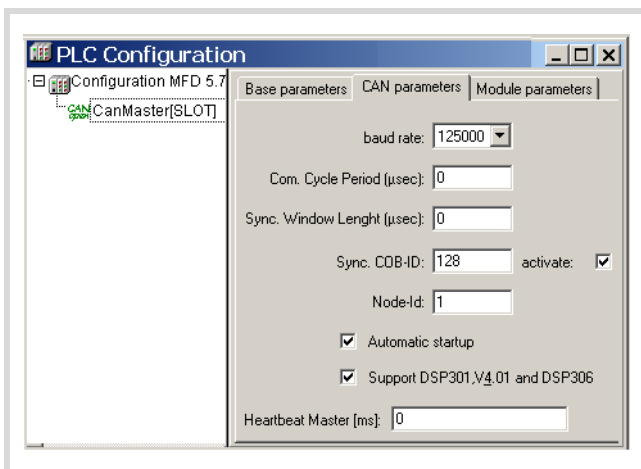

Figure 60: CAN Master: Node ID for basic communication
- ▶ The ID for basic communication is defined in the “CanMaster” folder in the “CAN parameters” tab (figure 60).